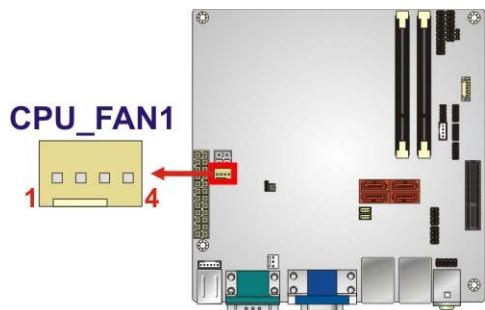

Figure 3-8: CPU Fan Connector Location
3.2.7 Fan Connector (CPU)**CN Label:** CPU_FAN1**CN Type:** 4-pin wafer**CN Location:** See Figure 3-8**CN Pinouts:** See Table 3-8